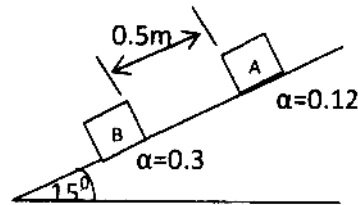

Fig. 11
- (b) Two blocks A and B, each of 1 kg mass and resting on a rough inclined plane are released from the position as shown in Fig. 11. The static friction between block A and surface of incline is 0.12, and that between block B and surface of incline is 0.3. Make calculations. Find the time at which impact would occur, and the velocity of blocks immediately after impact. Coefficient of restitution equal to 0.75.